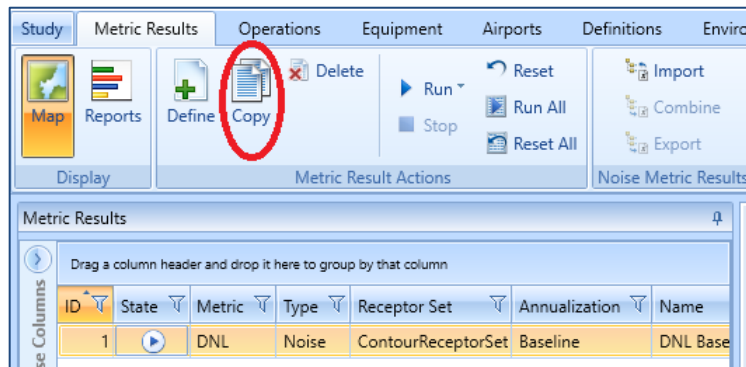

Figure 34. Copy Metric Result
1. Click on the Baseline metric result, and click *Copy* from the *Metric Results Actions* ribbon group (Figure 34).